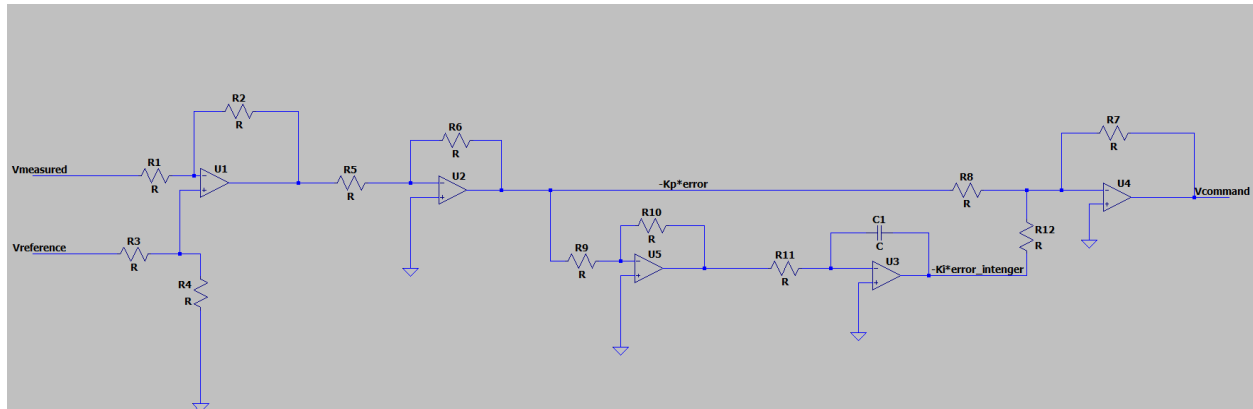

Figure 6- Circuit Implementing PI Control rule, $R5=R6=R9=R10=R8=R7=R12=R7$
- 7.2- Study the circuit in Figure 6. What is the purpose of amplifiers U2, U3 and U5?